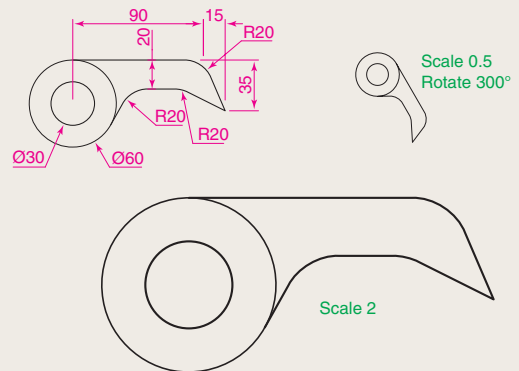

Fig. 5.54 Exercise 8
8. Construct the dimensioned drawing of Fig. 5.54. With **Copy**, copy the drawing. Then with **Scale**, scale the drawing to scale of **0.5**, followed by using **Rotate** to rotate the drawing through an angle of as shown. Finally scale the original drawing to a scale of **2:1**.